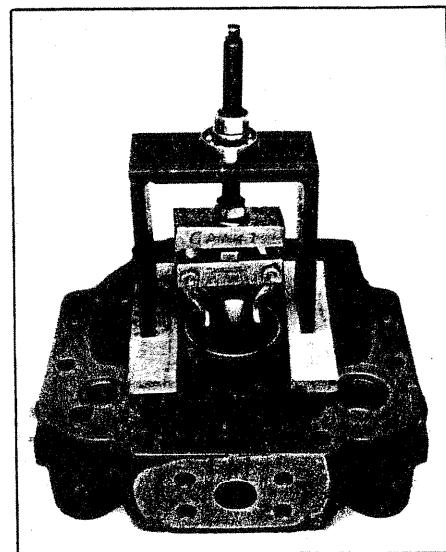

Figure 12. Removal of Bearing Race from Valve Block
8. Inspect feedback spool (17) for scratches on exterior of the lands. If scratches are found, replace spool (17) and sleeve (16) as a subassembly. The spool and sleeve are critical parts and cannot be replaced individually. Feedback spool subassemblies are tabulated on the control parts drawing. See Table 2.
9. Inspect bearings (29, 62, 71 & 77) for brinelling, pitting of rollers and roughness when turned in the bearing race. If a bearing is defective, both the bearing cone and bearing race must be replaced. If bearing race located in valve block (27) requires removal, refer to the procedure shown in Figure 12.
10. Inspect the bronze surface of valve plate (30) for excessive wear, scoring, or heavy erosion. If any of these conditions are noted, replace the valve plate. In most cases, the bronze surface will have a slight circular wear pattern and brown, burnishing areas. This is normal. The overall condition of the valve plate is attributed to the amount of service life, system fluid conditions and actual operating conditions of the pump.
11. Inspect bias piston (32) and bias rod (34) for proper fit. Make sure the parts fit together without binding. Also, make sure the end of bias piston (32) is not worn at the area of yoke (78) contact. If wear is found, check yoke (79) ball socket for bind. The yoke ball should rotate freely a total of 17.5° spherical without binding.
12. Inspect control piston (36) and sleeve (38) as noted in previous step.
13. If yoke (78) was removed from housing (80), check for wear at the area of the yoke pintles (yoke bearing area). Check yoke for stress cracks. Replace yoke if wear or cracks are found. If yoke is replaced on a PVD45 unit, install a new roll pin (79) into the yoke pintle.
14. Inspect pintle cover(s) (41) and (73) if removed. Check for flatness and burrs. Remove burrs with an India stone.
15. Inspect lock spacer key (43) for wear. Replace if worn or deformed.
16. Inspect lock spacer (44) for excessive wear, heavy scratches and burrs. Replace if the part shows evidence of wear. Remove burrs with an India stone.